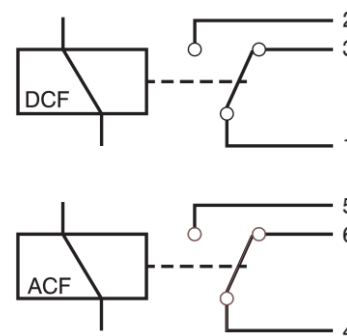

fig 3 - 10
- The power supply has 2 status relay outputs, with each a change-over contact. They are connected to connector CON D. The pins 1,2,3 are connected to the DCF-relay and pins 4,5,6 to the ACF-relay (see fig. 3 - 10).